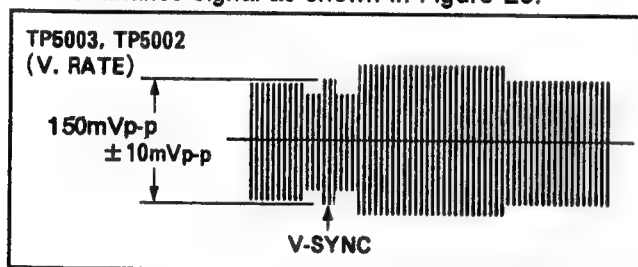

Figure E9
4. Adjust VR3008 for 150mVp-p \pm 10mVp-p as a luminance signal as shown in Figure E9.